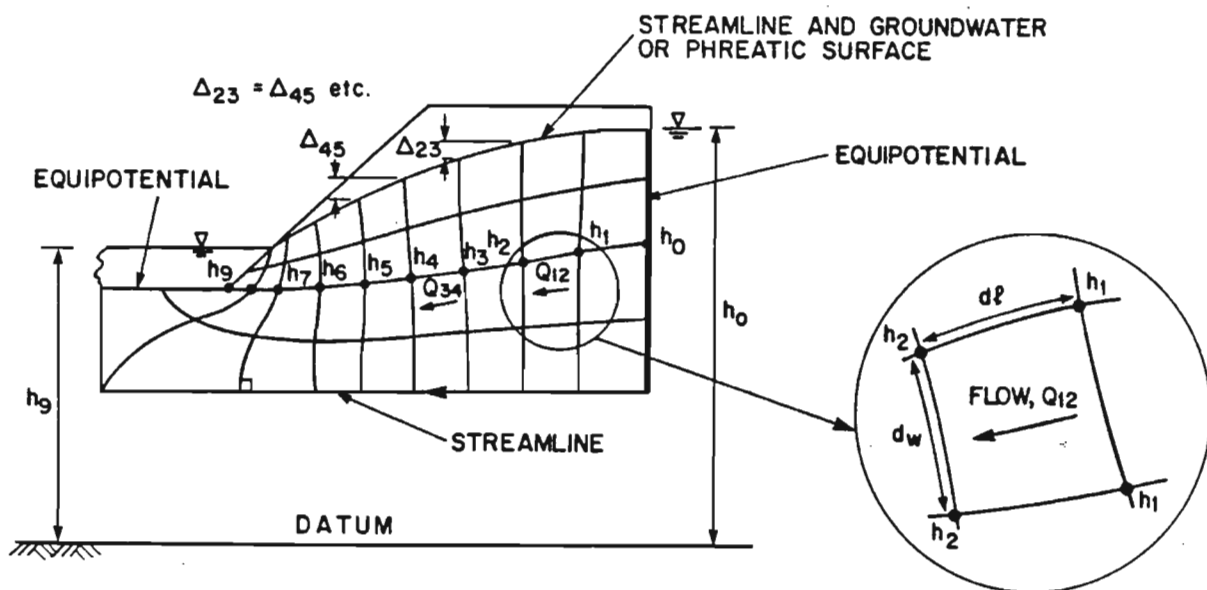

FIGURE 1.
*Equipotentials* locate a locus of constant total head,  $h$ . It can further be demonstrated that the streamlines represent boundaries that no fluid may cross, and therefore the groundwater surface is a streamline. Any orthogonal grid of streamlines and equipotentials that simultaneously satisfy the boundary conditions of the flow system and the requirements for orthogonality also satisfy the conditions for groundwater flow. A simple example is illustrated in the Figure 1 where a net of curvilinear quadrilaterals is drawn that satisfies the constant head boundary conditions of heads  $h_0$  and  $h_9$ . The phreatic surface (groundwater surface) represents the topmost streamline dropping uniformly between equipotentials such that  $\Delta_{23} = \Delta_{45}$ , etc. The lowermost streamline corresponds to a prescribed no-flow boundary beneath the system. It may be noted that the equipotentials remain orthogonal to the upper (phreatic) and lower bounding streamlines, and also to all intermediate streamlines.
From Darcy's law, the unidirectional flow confined between streamlines (characterized by the inset of Figure 1) may be represented as